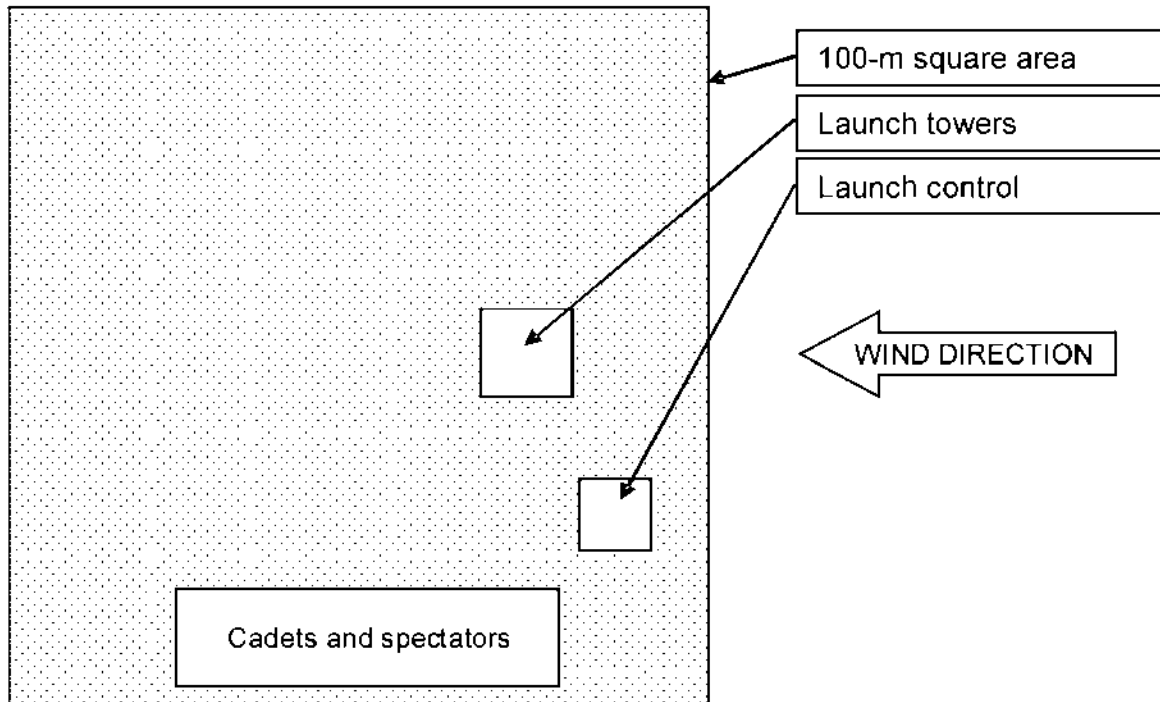

Figure A-1 Layout for a Rocket Launch Site
3. Layout the rocket launch site as per Figure A-1. Wind direction should be accounted for by placing the towers closer to the windward side of the field.